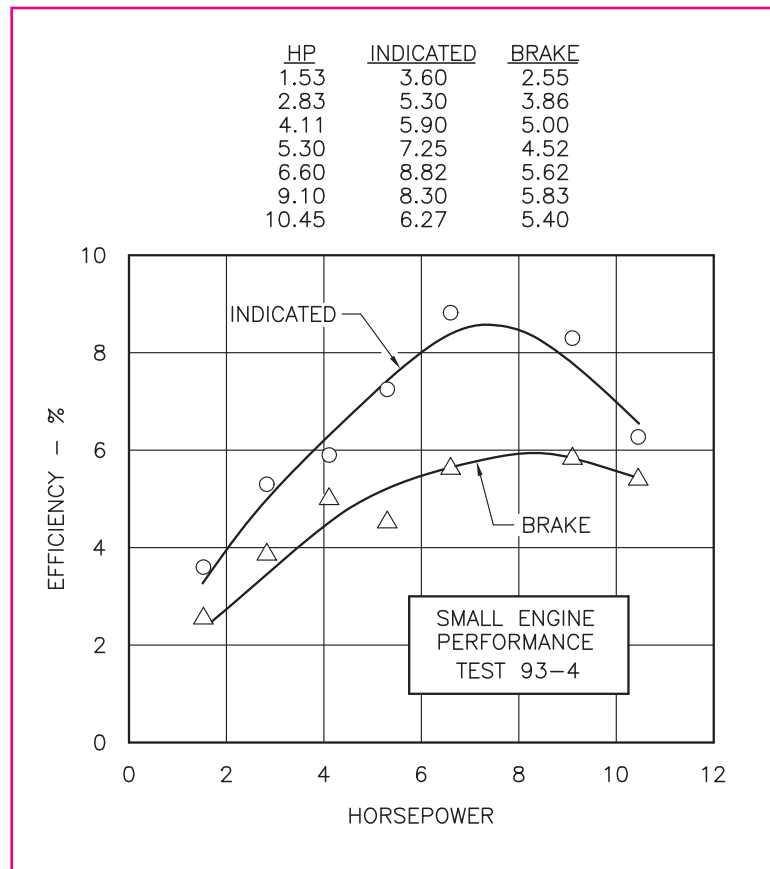

Fig. 24-5
6. The graph in Fig. 24-5 shows the indicated and brake efficiencies as functions of horsepower for a small engine. Reproduce the graph as follows: Using a suitable scale, draw the grid and plot the given points as shown; then draw a spline through each set of points. Place the border, title block, and curves on a layer named **Visible**; the grid and point symbols on layer **Grid**; and the text on layer **Text**. Trim the grid around the text and arrows, and trim the curves and grid out of the symbols. Use the appropriate text justification to align the axis numbers and titles properly.